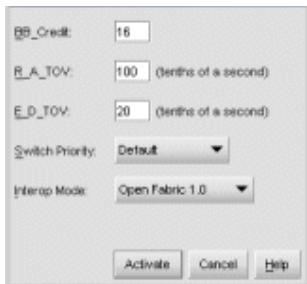

Figure 20 Configure Fabric Parameters dialog box
- At the Hardware View, select **Operating Parameters > Fabric Parameters** from the Element Manager window. The Configure Fabric Parameters dialog box is displayed (Figure 20).